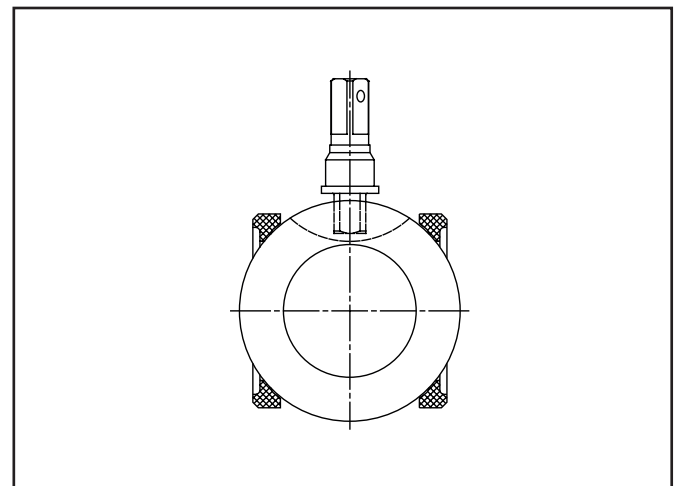

Figure 1.
1. Slide the first seat (5) into the body (1) to below the stem opening and tilt it into place so that the proper face will come into contact with the ball (3) (see **Figure 1**). Do not scratch or cut the seat faces.
2. From inside the valve body cavity, insert the secondary stem seal (13) and lower stem seal (7).
3. Insert the stem from inside the body (1), being careful not to scratch the stem seals and press it up into the stem bore until it is firmly seated against the lower stem seals (13 & 7).
4. Holding the stem in place from the bottom, insert the upper stem seal (7) over the stem and into the body stem bore.
5. Place the compression ring (18) on the stem and fit the bonnet plate (9) over the stem and the two bonnet studs.
6. Place the hex nuts (10) on the bonnet studs and tighten them evenly until they contact the bonnet plate (9) then tighten another 3/4 of a turn.
7. Place the indicator stop (12) over the stem, positioning it so that counter-clockwise rotation will open the valve. For valves with "FO" option, the indicator stop (12) is marked with "FO". When placing indicator stop over stem, "FO" marking shall be face up. At this point, the stem with the indicator stop mounted and located between the stop bushing is positioned so clockwise rotation of the stem will open the valve.
8. Place the retaining ring (32) over the stem and into the groove on the stem.
9. Insert the ball (3) rotating it onto the stem (4) in the closed position. If necessary, turn the stem blade to align with the ball slot.
10. Insert the second seat (5) into the insert (2) so that the proper face will come in contact with the ball (3). Insert body seal (6) into the body with the chamfer on the I.D. facing away from the ball.
11. Adjust the set screws (26) so that they do not protrude through the insert or above the insert face.